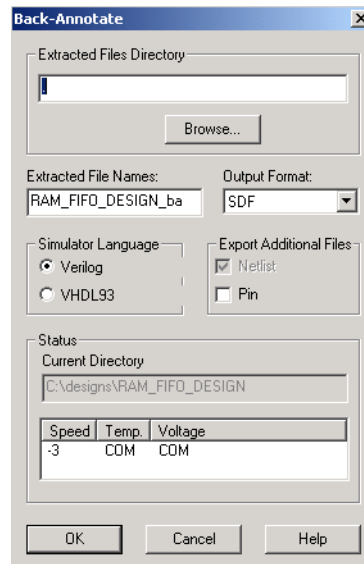

Figure 2-28. Back-Annotate Dialog Box
1. **From the Tools menu, click *Back-Annotate*, or click the *Back-Annotate* button in the Design Flow window.** This displays the Back-Annotate dialog box, as shown in Figure 2-28.